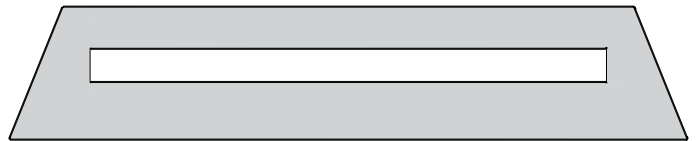

Figure 8
9. Apply crushed glass to the shaded area only. See Figure 8. Use enough to cover the floor of the fireplace, but do not allow the media to reach higher than the flange surrounding the burner. Never place decorative media inside the flange surrounding the burner itself.